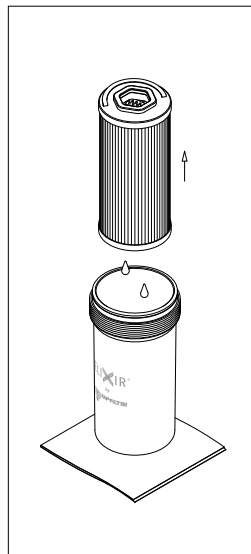

fig. 11
- (Fig. 11) Pull the filter element out after placing a protection from operating fluid dripping